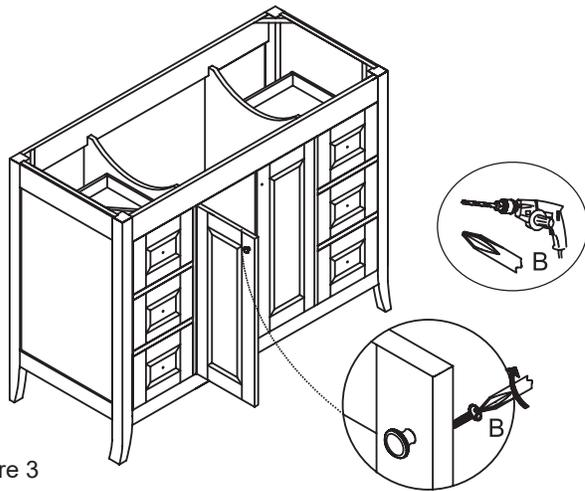

Figure 3
**6:** Attach the door knobs by using the 1-1/4" screws and attach the drawer knobs by using the 1-3/8" screws. Figure 3. **NOTE:** For 31-1/8"W and 37-1/4"W models, use the 3/4" screw for the top non-functional drawer.